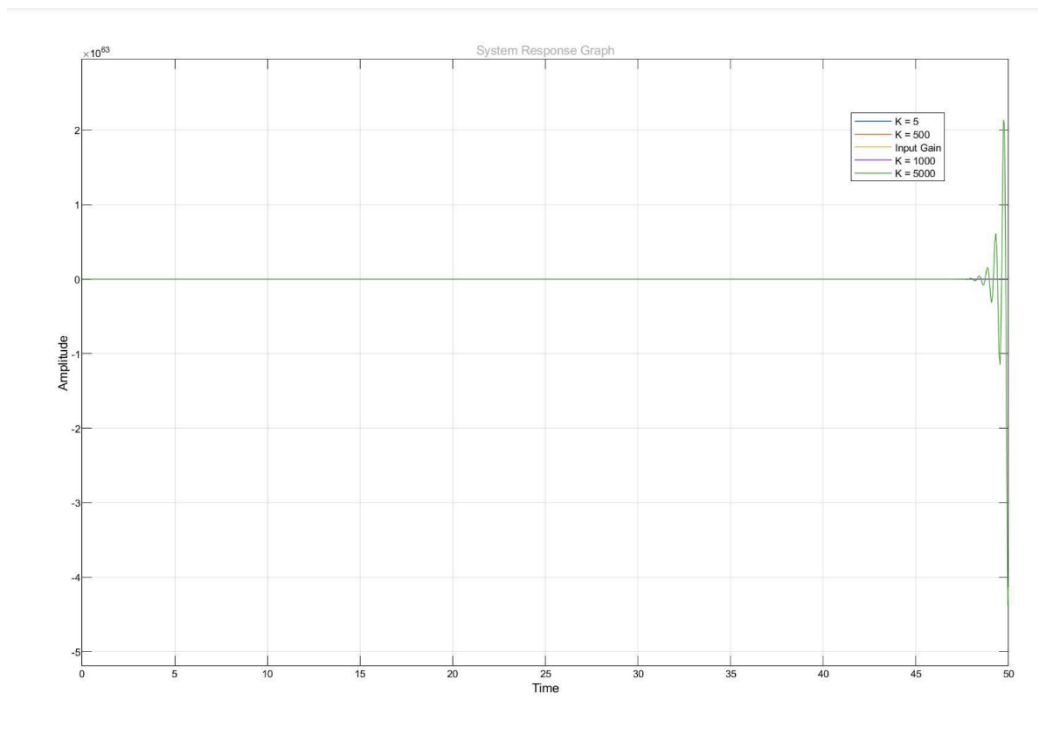

Figure 18 - A graph of the error signal of the system for an input of 5 for (7)
2. Regarding Question (7): In this instance, the graphs for input 5 , $5t$, and $5t^2$ (Figures 18–20) will provide comparable insights. Compare them to the theoretically predicted figures for the steady-state errors of various sorts of systems. Different system assumptions or unforeseen transient behaviours affecting steady-state conditions can cause discrepancies.